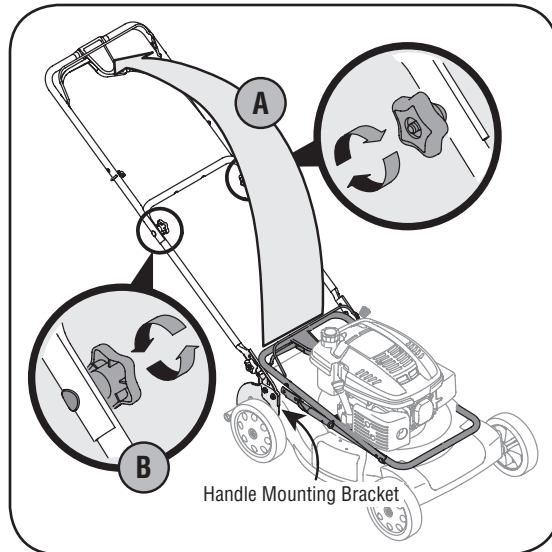

Figure 3-1: Lift handle and tighten hardware.
- a. Remove hand knobs from handle mounting brackets and pull up and back on upper handle as shown in Figure 3-1. Make certain the lower handle is seated securely into the handle mounting brackets.